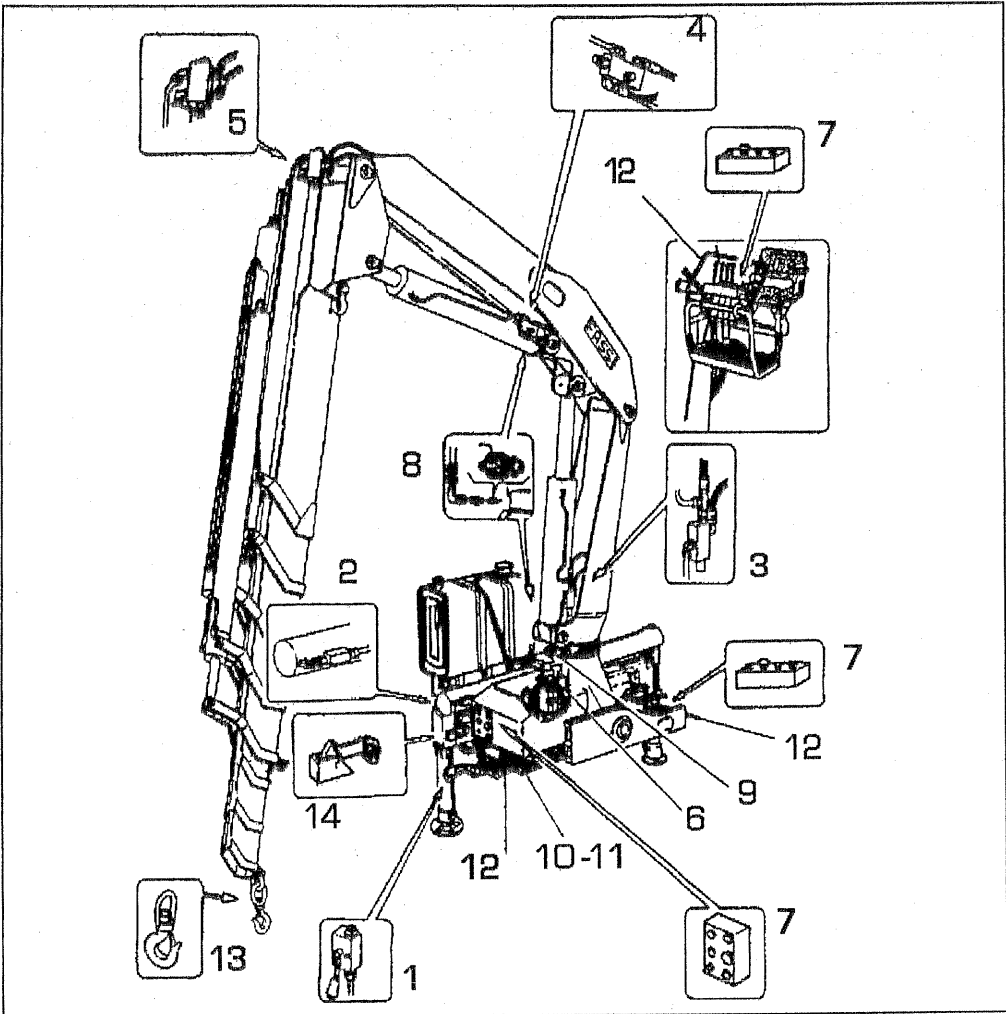

fig. 7
**Version with ground controls for crane and outriggers and top seat controls for crane by hand-cables (optional) (fig.7)**